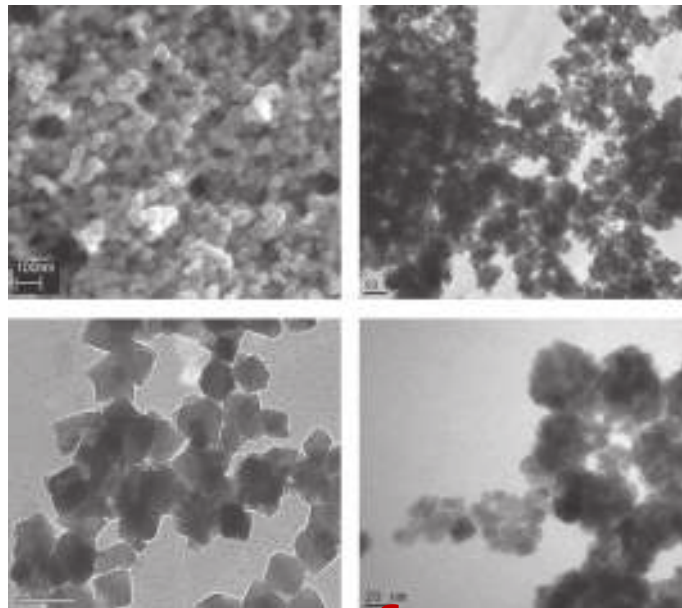

FIGURE 13.9 Magnetic particles under the microscope. (Photos courtesy of Ilvior Lutz, P.T.Jeng.)
- **Hysteresis losses:** Hysteresis loss is a heat loss, which is caused by the magnetic properties of the armature. Armature rotation leads to the change of direction of magnetic flux, and thus continuous movement of magnetic particles. Magnetic particles are particles within a magnetic element. These particles create the magnetic property of the material. Indeed, a magnet is formed by the integration of many magnetic particles. Figure 13.9 represents the schematics of magnetic particles that form a magnet.